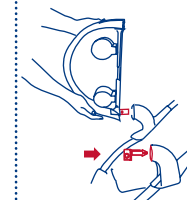
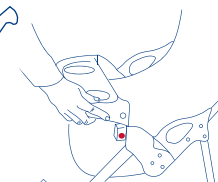

Fig. 11c
Fig. 11d
**To attach the front child tray:** Insert the tray clip into the fitting on the stroller's fold joint. Check the tray clip locks into place. (Fig. 11c) Push the angled tray onto the post at the end of the right armrest, while pressing downward on the snap button, until locked into place. Rotate the tray downward until latched onto the left armrest. Please check that the snap button comes through and securely latches the tray in place. (Fig. 11d)